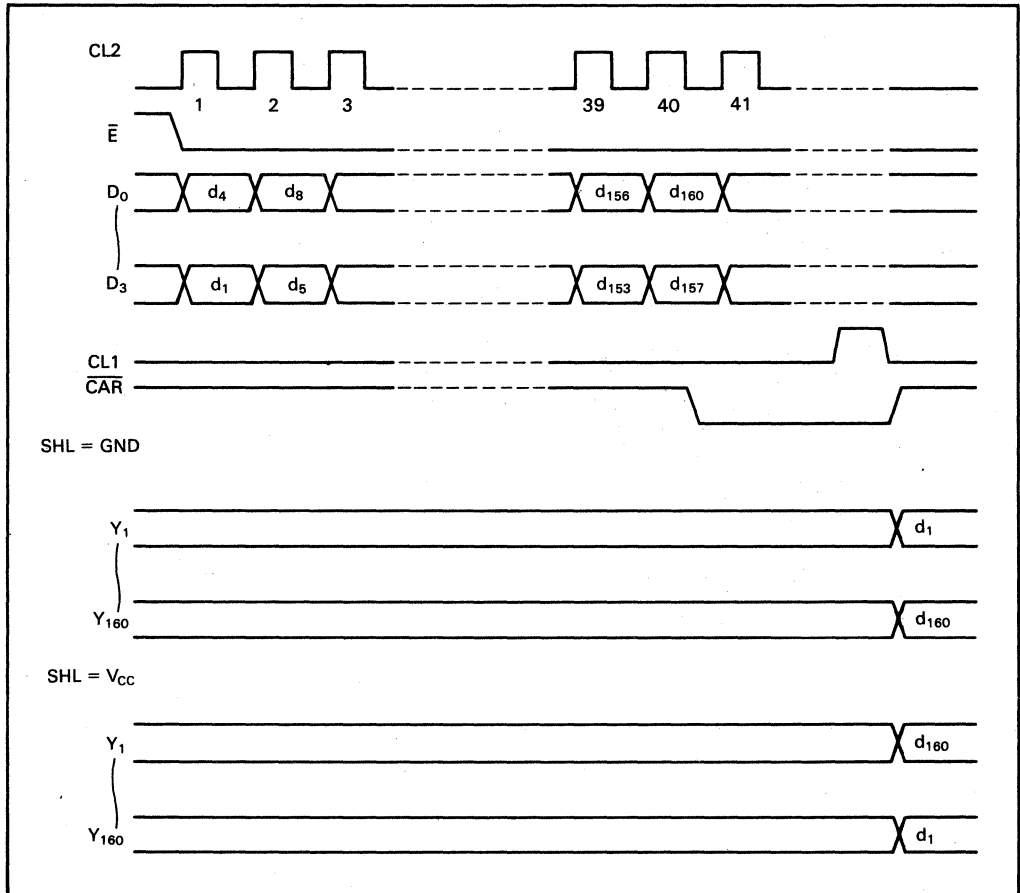

Figure 5 Column Driver Timing Chart (2)
4-bit display data (D_0 - D_3) is latched at the falling edge of CL2. Other operations are performed in the same way as described in "Column Driving (1)". See figure 5.